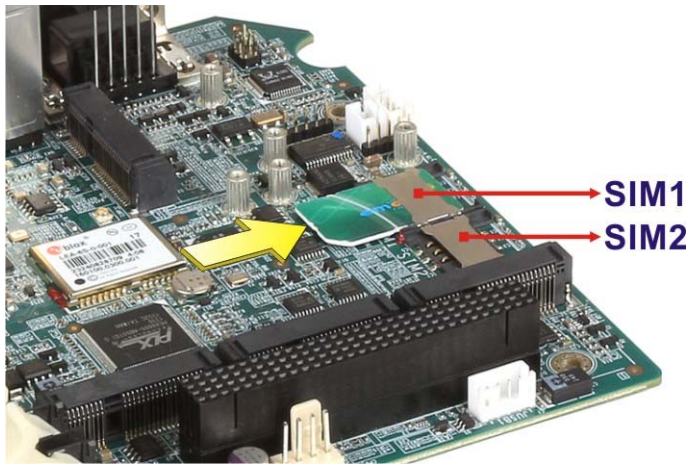

Figure 3-4: SIM Card Socket Locations
Step 5: There are two SIM card slots in the IVS-100-BT (**Figure 3-4**). Insert the SIM card into the slot as indicated in **Figure 3-4**.